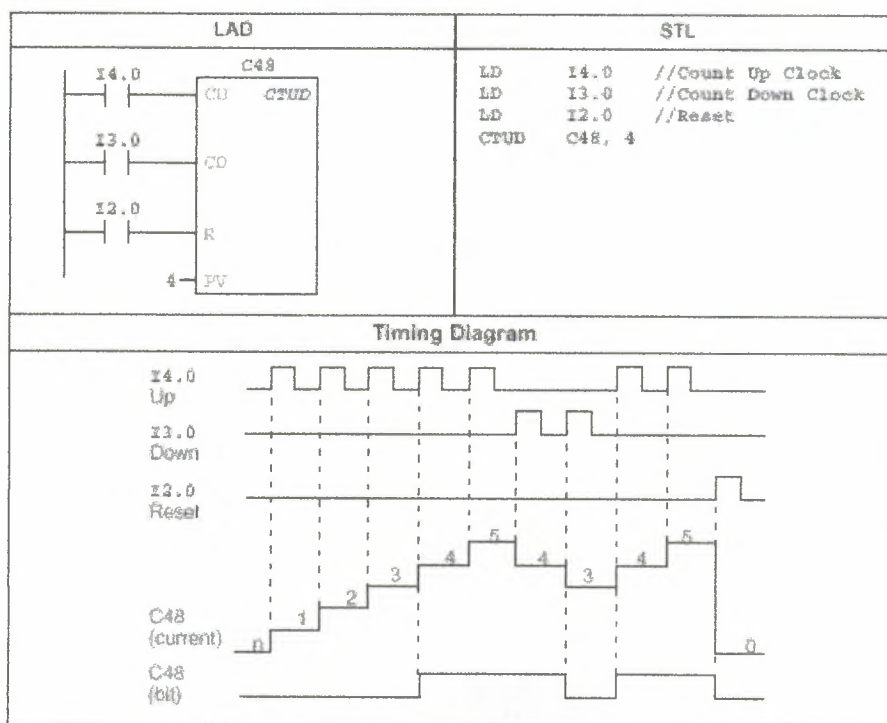

Figure 7.10 Example of Counter Instruction for LAD and STL
The Up Counter (CTU) counts up from the current value of that counter each time the count-up input makes the transition from off to on (Figure 7.10). The counter is reset when the reset input turns on, or when the Reset instruction is executed. The counter stops upon reaching the maximum value (32,767). The Up/Down Counter (CTUD) counts up each time the count-up input makes the transition from off to on, and counts down each time the countdown input makes the transition from off to on. The counter is reset when the reset input turns on, or when the Reset instruction is executed. Upon reaching maximum value (32,767), the next rising edge at the count-up input causes the current count to wrap around to the minimum value (-32,768). Likewise on reaching the minimum value (-32,768), the next rising edge at the countdown input causes the current count to wrap around to the maximum value (32,767). When you reset a counter using the Reset instruction, both the counter bit and the counter current value are reset. The Up and Up/Down counters have a current value that maintains the current count. They also have a preset value (PV) that is compared to the current value whenever the counter instruction is executed. When the current value is greater than or equal to the preset value, the counter bit (C-bit) turns on. Otherwise, the C-bit turns off.